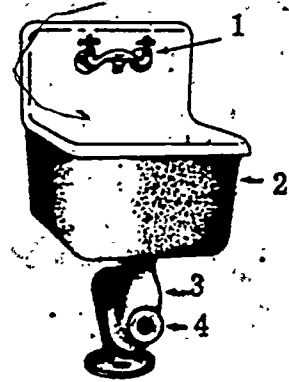

Figure 11. Slop Sink
2. Examine figure 11 and enter the answers to the following statements or questions on the blank lines.